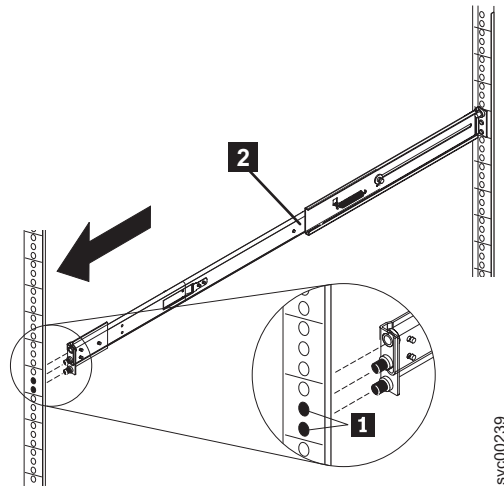

Figure 118. Extending the right slide rail
4. Extend the right slide rail **2** and insert it into the front rack mounting flange, as shown in Figure 118, with the rail pins **1** protruding through the flange. Insert the left slide rail in the same way.